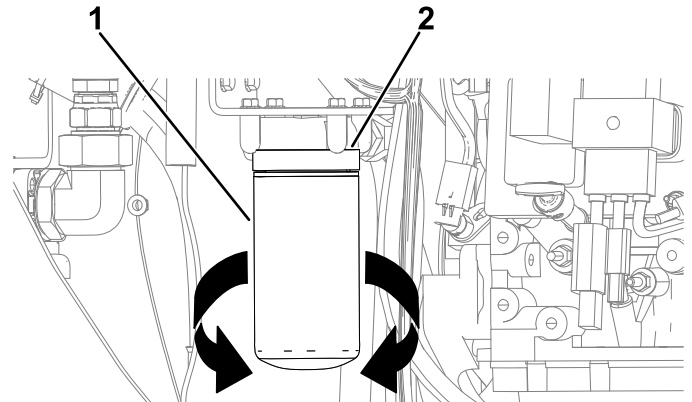

Figure 123
3. Align a drain pan or several rags under the oil filter and the oil-filter adapter (Figure 123).
4. Rotate the oil filter counterclockwise and remove the oil filter (Figure 123).
8. Align the oil filter to the oil-filter adapter, and rotate it clockwise until the seal of the oil filter contacts the oil-filter adapter (Figure 123).
9. Hand tighten the oil filter an additional 1/2 turn (Figure 123).